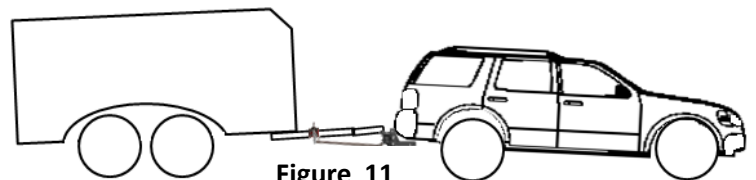

Figure 11
b. The FRONT bumper measurement should never reduce more than the REAR measurement (see Figure 11). If necessary, increase the number of chain links between Rapid Hook Up and spring bar. If there are no more links, the angle of the Ball Mount assembly (1) must be decreased. Uncouple the tow vehicle. With the upper Bolt (7f) removed from the Ball Mount (1) assembly, pivot the Ball Mount assembly up and remove a Spacer Washer (7b) from the Rivet (7a).